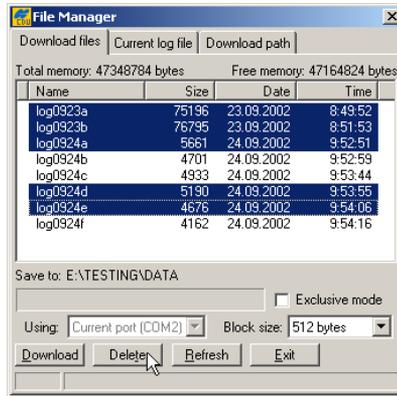

Figure 5-14. Delete Files
3. Click **File ▶ File Manager**, and select the file(s) to delete on the *Download files* tab (Figure 5-14 on page 5-9).
4. Click **Delete** (Figure 5-14 on page 5-9).